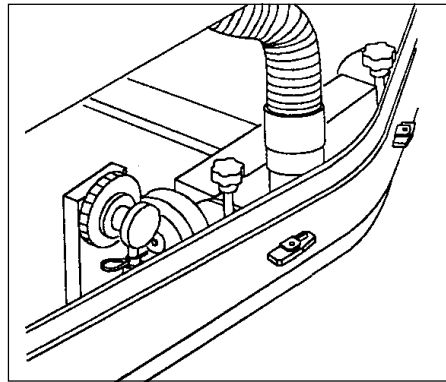

Figure 51
2. Push and rotate the small tabs on the squeegee so that they will slip through the holes in the squeegee blade clamping plate (see figure 51).